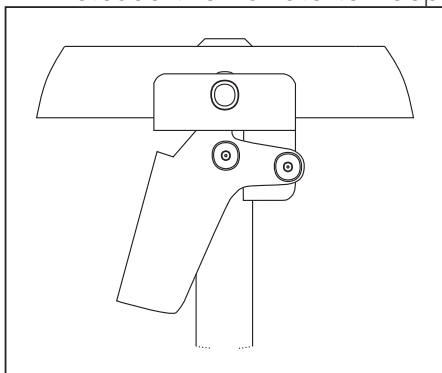

Figure 13: Slide Lock
2. Grip the Slide Lock Handle (Figure 13) to allow the deck to slide.